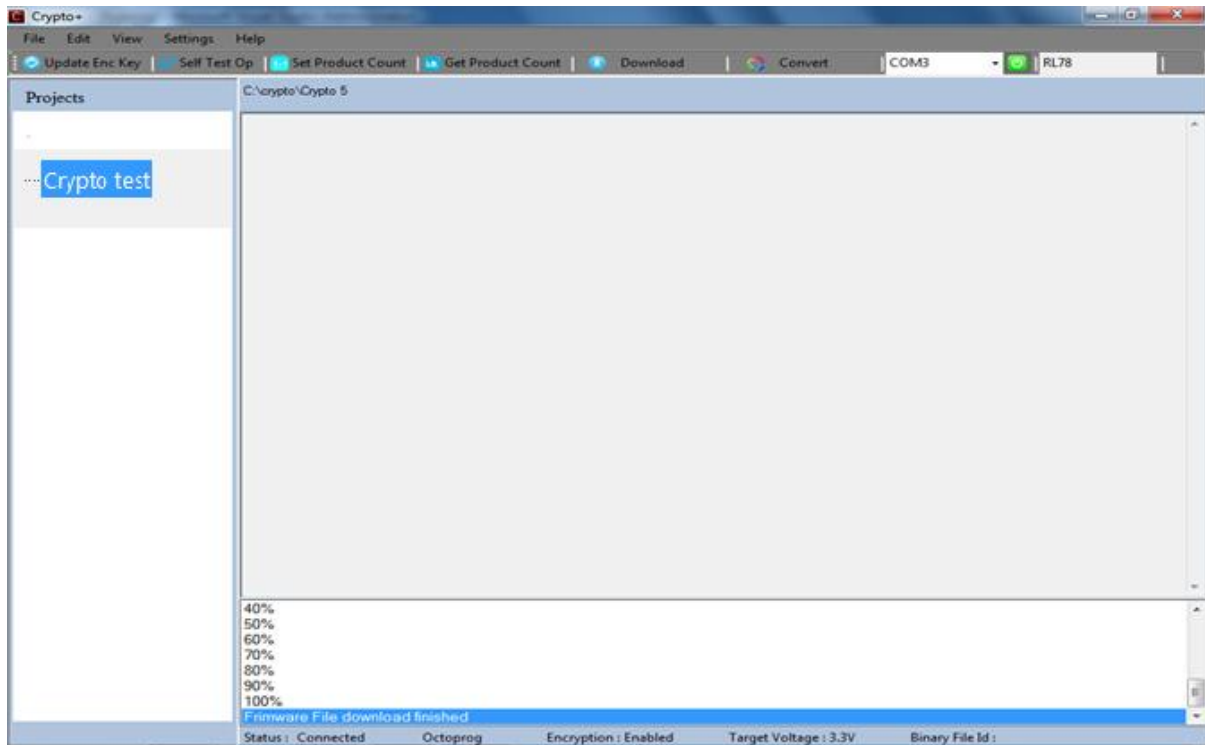

Figure 2.45
STEP 7: After completing firmware download, message **'Firmware File download finished'** will be displayed in the text view as shown in figure 2.45.